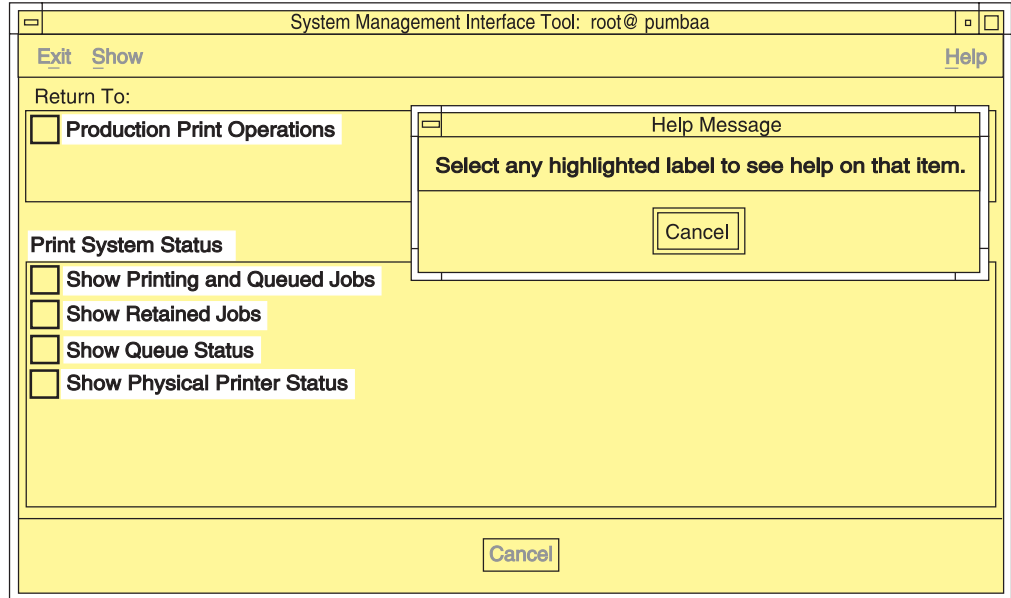

Figure 25. Help for SMIT Panel Menu Selections
1. Press **Ctrl + F1**. All the menu selections on the panel are highlighted. The mouse pointer changes to a question mark. A **Help Message** window opens with instructions on how to access help. Figure 25 on page 103 shows an example of the results of pressing **Ctrl + F1** for a SMIT panel.